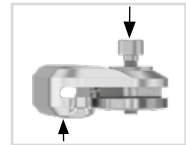

fig. 7
- 2 Place the washer on the cover plate and screw the pressing screw into the thread of the first screw (S1; fig. 11). The pressing screw must not be screwed in completely (fig. 7).
- 3 Push the joint's upper part and the cover plate apart by exerting force on them as illustrated (arrows in fig. 7). This can be achieved by using a vice or by controlled knocks (e.g. with a soft-faced hammer).